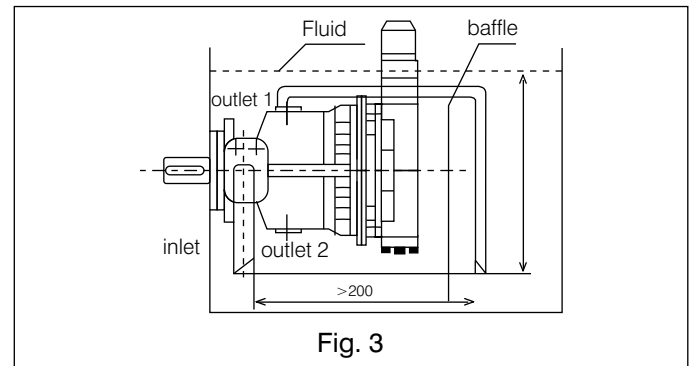

Fig. 3
a). If the minimum fluid level is above the top of the pump, port "outlet 2" closed, "outlet 1" and "inlet" should remain open, "outlet 1" piped and recommendation "inlet" piped (see Fig. 3)
- The checking method of installation accuracy of prime mover output shaft and support are shown in figure 3.
- In figure 3, Vertical degree beating < 0.05 (is circle radius of pump installation screw holes distribution).
In this form, if prime mover and pump is connected with the coupling, the installation precision testing methods as shown in figure 3. If the pump shaft directly into prime mover in the output shaft, the installation precision testing method is as figure 4.